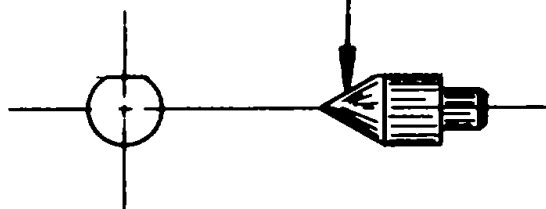

Figure 228.
C-3 Inspect high pressure relief valve pilot (13) Under normal usage, a seating pattern will burnish on face of pilot (13) If seating pattern can be felt or If the pilot is damaged in any way, It must be replaced See Fig 228.